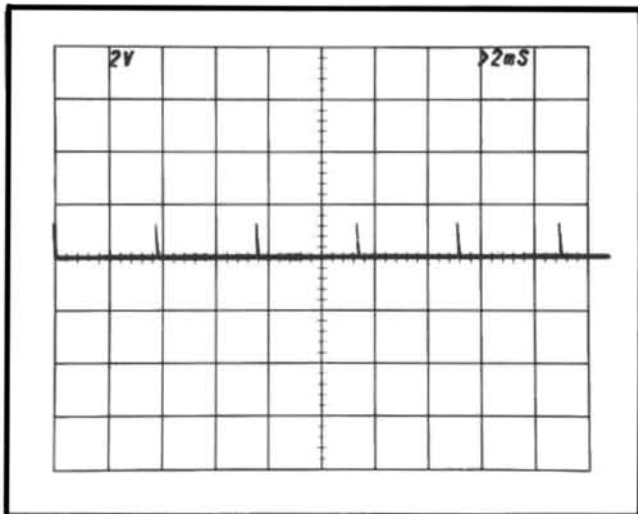

Fig. 5-10. Typical CRT display when checking VARIABLE control range.
c. CHECK—CRT display for a two-division maximum spacing between markers (indicates adequate range for continuously variable sweep rate between the calibrated steps; see Fig. 5-10). Return the VARIABLE TIME/DIV to the CAL IN position.